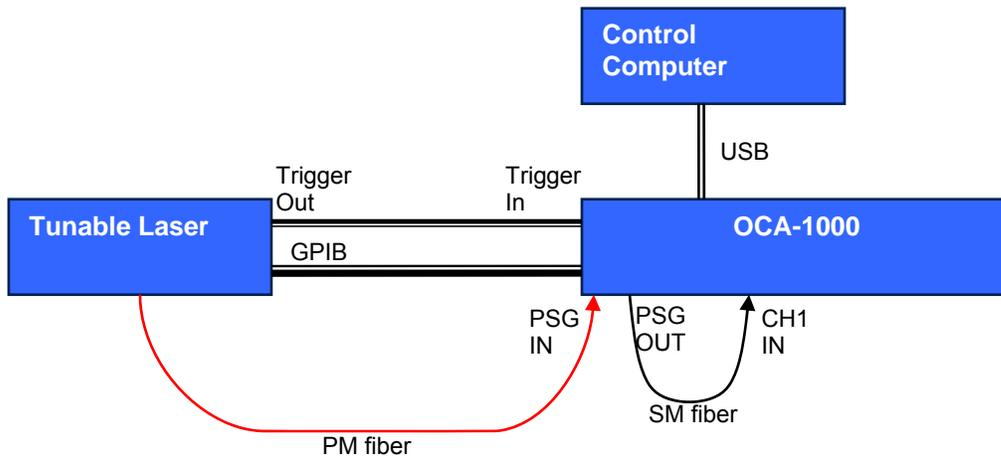

Figure 11 Setup diagram for PSG reference
5. Take a reference measurement. The reference is used to calibrate out the effects of the PSG from the measured value. The reference measurement needs to be done only once during a measurement session, unless the laser or PSG setup is changed. Connect a good, low-loss SM fiber patchcord as the DUT between the PSG output and the channel 1 input (Figure 11).
The reference and measurement setups are shown in Figure 11 and Figure 12, respectively.
1. Set up the OCA-1000, control computer, and laser source as shown in Figure 11.
5. Take a reference measurement. The reference is used to calibrate out the effects of the PSG from the measured values. The reference measurement needs to be done only once during a measurement session, unless the laser or PSG setup is changed. Connect a good, low-loss SM fiber patchcord as the DUT between the PSG output and the channel 1 input (Figure 11).